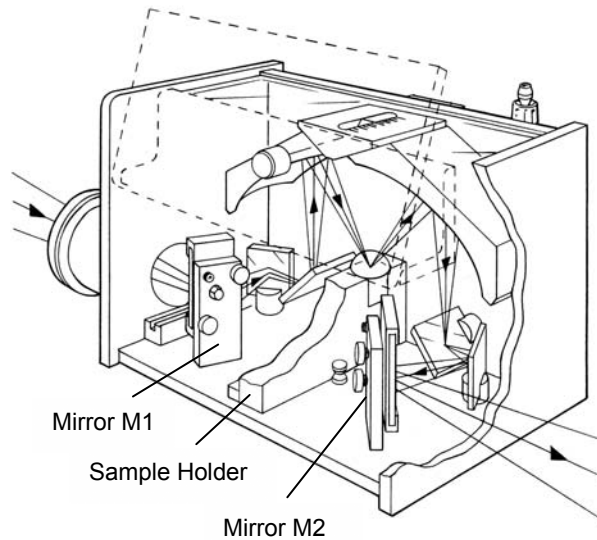

Figure 7 • Alignment
- Adjust the two knobs on mirror M1 first and then those on mirror M2 to maximize the energy striking the detector (Figure 7). These adjustments should be made in sequence. Only minor adjustments should be required.
- Fine tune the alignment of the Seagull™ by adjusting the two knobs on each mirror (Figure 7).